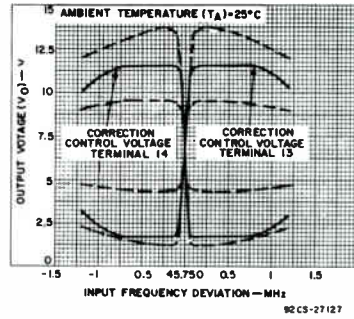

Fig. 4 - Dynamic control-voltage characteristics.
- AFT Detector and DC Amplifier** — Consists of Q6 through Q12 and related components. The detector inputs at terminals 8 and 10 are connected to the external discriminator transformer and biased through the transformer at terminal-6 potential. The total current through transistors Q7 and Q8 is held constant by the current-mirror transistors Q10, Q11, and Q12. External filter capacitors connected to terminals 11 and 12 assure that peak detection is accomplished. The AFT output voltages are shown in the Electrical Characteristics chart, and a graphical representation is shown in Fig. 4.